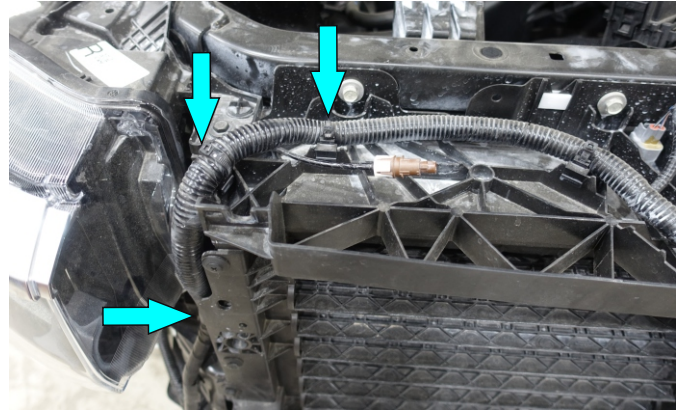

Fig.20
20. Cut the cable ties (fig. 20).